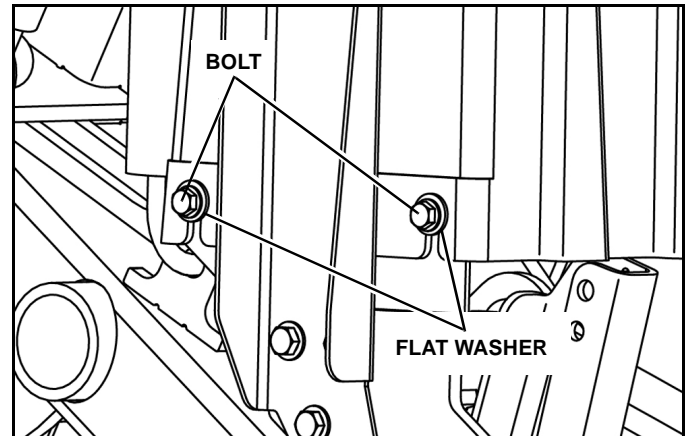

Figure 1-40
19. Install the power unit cover, ensuring that the washer on all four bolts are on the exterior of the cover. Tighten bolts securely. (See Figure 1-40).